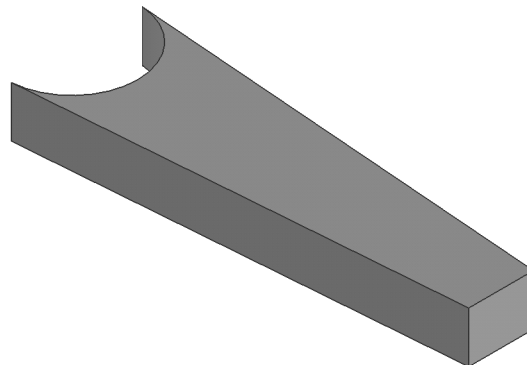

Figure 8-61 Base feature of the model
- Draw the sketch for the base feature and extrude the same, refer to Figure 8-61.
4. Select the **Symmetric Value** option from the **Start** drop-down list of the **Limits** area. Enter 5 as the value in the edit box at the right of the **Start** drop-down list. Choose the **OK** button to create the base feature. Turn off the display of all the entities, except the base feature. The resulting base feature is shown in Figure 8-61.